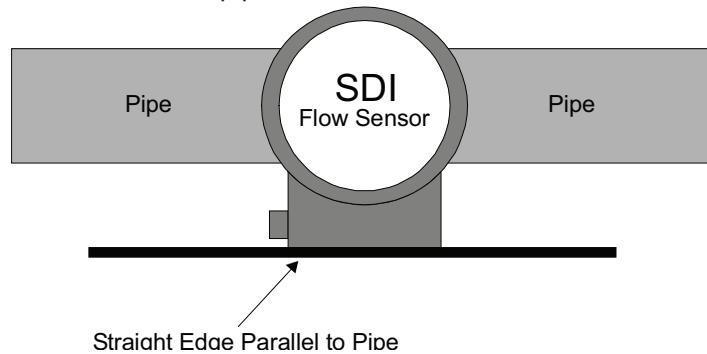

Figure 11: Level the sensor
17. Align the flow sensor with the pipe by using the flat side cover of the electronics housing as a guide. Place a straightedge along the cover and rotate the sensor until the straightedge is parallel to the pipe as shown in Figure 11.